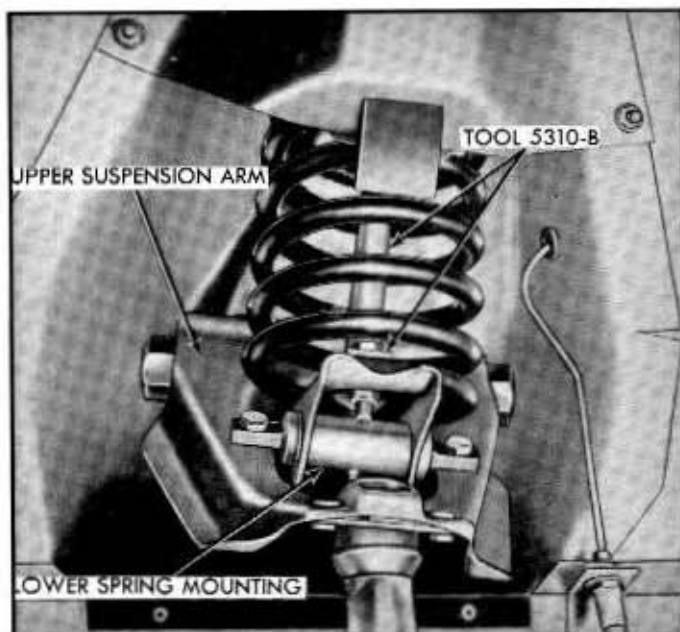

Fig. 3-14—Remover and Replacer Tool—Assembled to Spring Plate—(61CM-407)
5. Install Tool 5310-B in the shock absorber lower mounting holes. Use the tool to compress the spring 2 to 2½ inches. See figures 3-14 and 3-15.